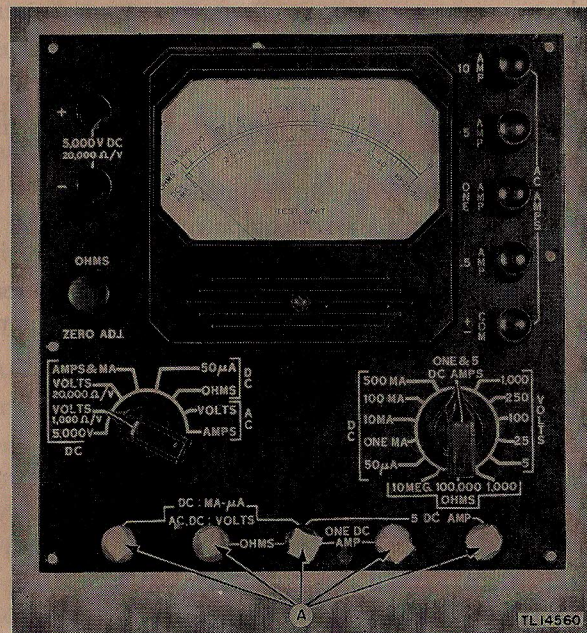

Figure 13. Test Unit I-176, top view, masking on front panel.
- (e) Five (5) pin jacks on front panel, item A, figure 13.
(3) PREPARATION. Thoroughly clean all equipment to be treated by removing all oil, dirt, rust, or fungus adhering to components.
(4) DRYING.
(5) VARNISHING.
- (a) Apply three (3) coats of moisture and fungiproofing varnish to all equipment to be treated, including inside of cases, allowing a 15 to 20 minute drying period after each coat.
(6) REASSEMBLY.